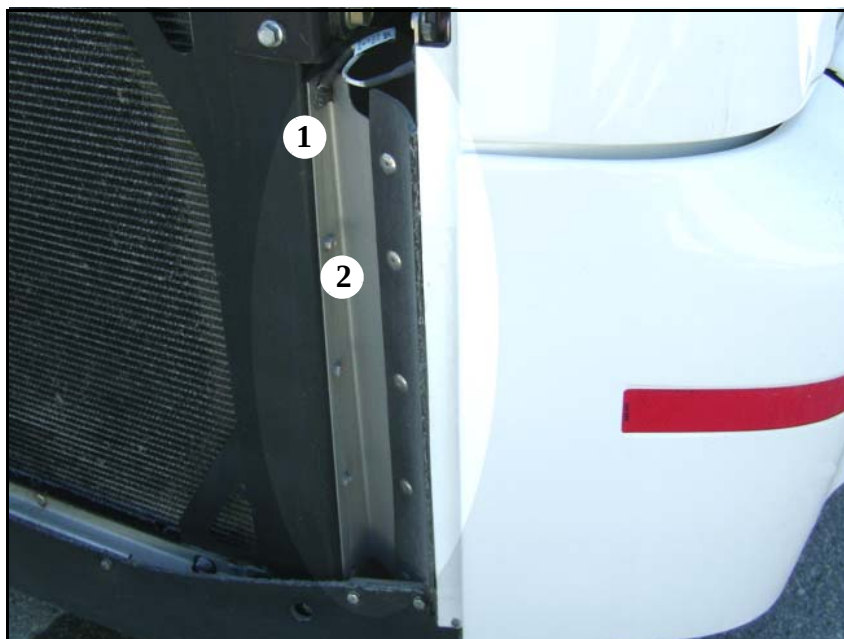

Figure 21. Radiator closing panel strip assembly.
55. Push to secure the radiator compartment door in the open position. Locate the closing panel strip assembly and ground cable shown in Figure 21. Remove and retain the closing panel strip assembly mounting hardware. Carefully remove the closing panel strip assembly and place aside to be re-installed at a later step in this procedure. Using a marker and tape, label the mounting hardware for re-installation.
Item	Figure 21 Description